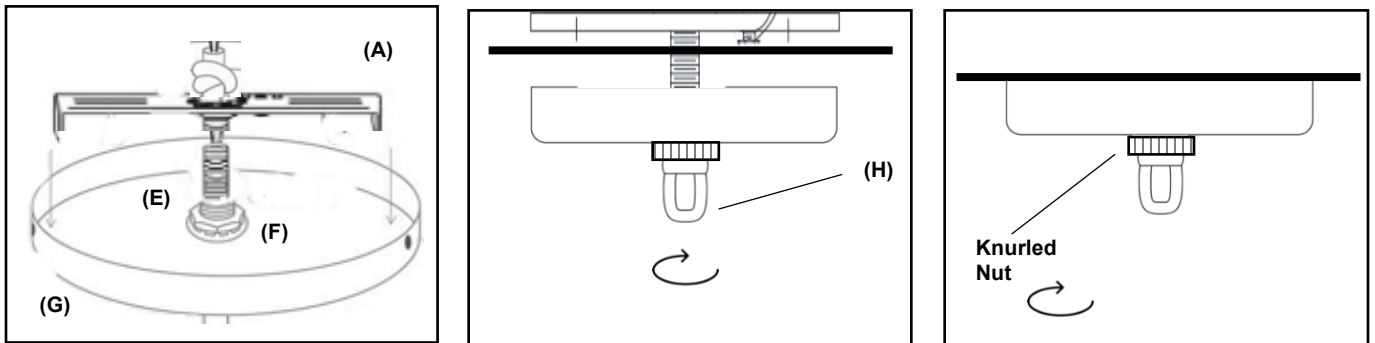
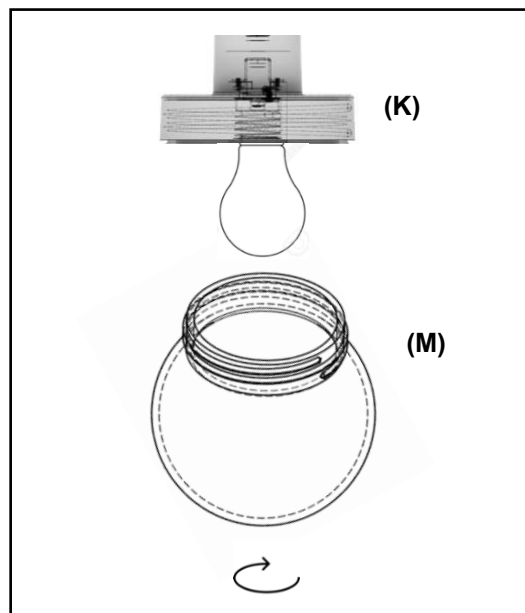

Fig 5
Fig 6
- 5) After all connections are made, attach the Canopy (G) to the Mounting Plate (A) by aligning the threaded Canopy Loop (H) with the threaded pipe on the Mounting Plate and rotating clockwise to engage. Ensure the Hex Nut (E) and Grounding Washer (F) are still in place. Next, rotate the knurled Nut on the Canopy Loop until the canopy tightens securely against the ceiling (Fig 5).
- 7) Insert (1) **60-watt maximum TYPE A** standard incandescent light bulbs (not included) into the socket. DO NOT EXCEED THE RECOMMENDED WATTAGE.
- 8) Carefully rotate the Glass cover (M) onto the Metal cap (K) in a clockwise direction by hand until tight (Fig 6). Use one hand to hold the Metal Cap in place and prevent from spinning, and the other hand to rotate the Glass cover. ENSURE GLASS COVER IS SITTING FLAT INSIDE THE METAL CAP BEFORE ROTATING.